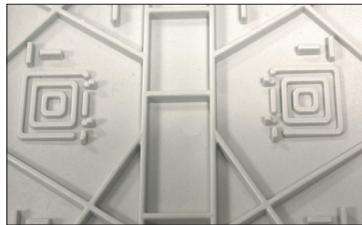

Fig.14
**Tip:** At the end of these installation instructions is a page with a blank Connection Assignments Table that you can use to note which connections you have made. The Connection Assignments Table can be stored separately under the enclosure cover. 2 clips are supplied which can be adhesively attached to the underside of the cover, and they can then be used to hold your Connection Assignments Table (**Fig.14,14a,14b**).